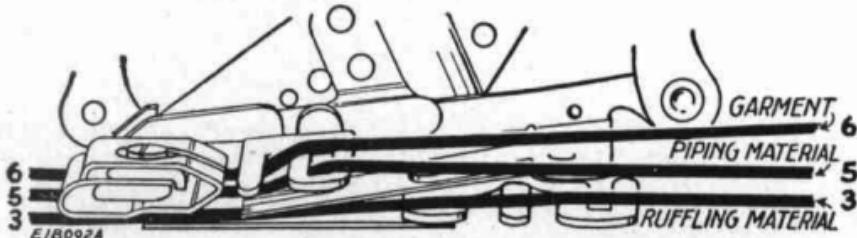

FIG. 67. CORRECT POSITIONS FOR THE MATERIALS
- (1) Insert the material to be ruffled between the two blue blades **Line 3**, **Fig. 67**. This material must not exceed $1\frac{1}{4}$ inches in width.
- (2) The piping material is usually cut on the bias and it should be about $\frac{1}{4}$ inch wide when folded in the center. Place the piping material in the ruffler, following **Line 5**, **Fig. 67** with the folded edge of the piping to the right.
- (3) Fold the edge of the material to which the piping and ruffling are to be attached and insert it in the ruffler, following **Line 6**, **Fig. 67**.